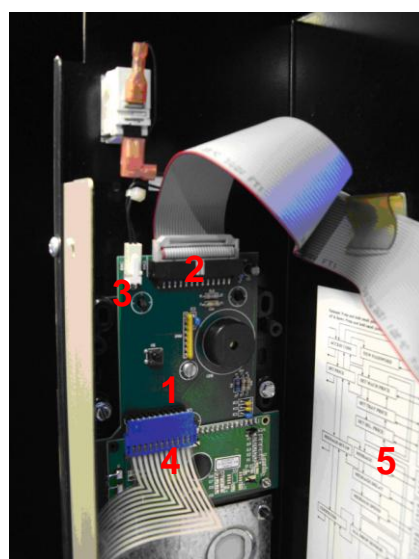

Figure 8
12. Remove ¼" HEX screw securing the original display PCB to the mounting bracket. Remove the original display PCB and install new display PCB and reattaching using the (1) screw just removed. Install new display PCB and bracket assembly in the machine as shown. See Figure 8.
13. Attach (2) VE5802C new display harness, (3) door interlock switch and (4) selection keypad as shown. See Figure 8.
14. Affix (5) VE5821 programming label to inside of monetary panel as shown. See Figure 8.